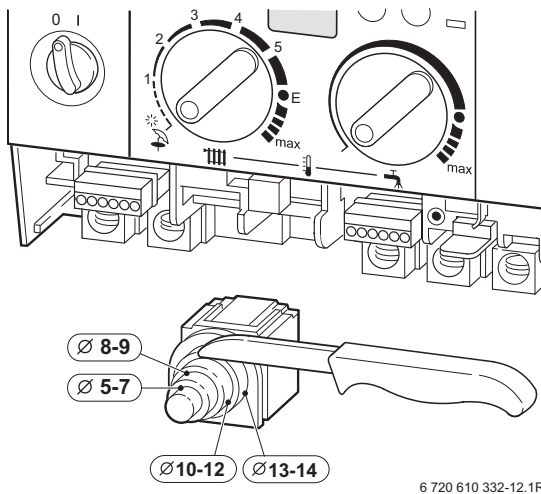

Fig. 27
- ▶ To make splash-water proof (IP): cut the cable grommet hole size to match diameter of cable, see fig. 27.